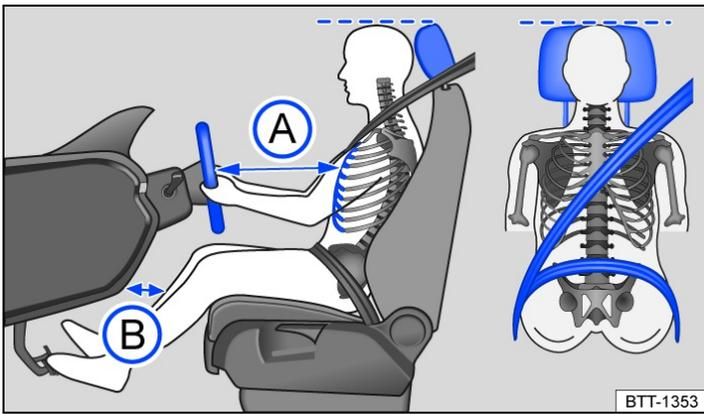

Fig. 1 Illustration: correct distance between the driver and the steering wheel, correct seat belt routing and correct head restraint adjustment.
- Adjust the seat so that the distance between the steering wheel and your breastbone is at least 25 cm → Fig. 1 **A** and the circumference of the steering wheel can be held at the sides with both hands and your arms slightly bent.
- Adjust the driver seat by moving it forwards or backwards so that you are able to press the pedals to the floor with your knees still slightly bent and so that the distance from the dash panel to your knees is at least 10 cm → Fig. 1 **B**.